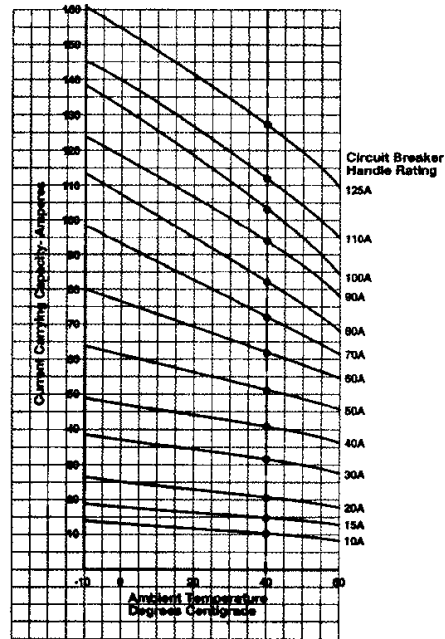

Figure 5
- Refer to the ambient rerating curve, *Figure 5*.
For example, *Figure 5* shows the ambient rerating curves for QOU miniature circuit breakers. Determine the continuous current carrying capacity of an 80A circuit breaker applied at 50°C by finding 50 on the horizontal axis and reading up to the 80A curve and over to the vertical axis on the left-hand side. The circuit breaker is rerated to carry 75A when applied at 50°C. If the circuit breaker is used on a continuous load (three hours or more), Paragraph 220-3(a) of the NEC requires that loading not exceed 80% of the rating ( $75A \times .80 = 60A$ ).